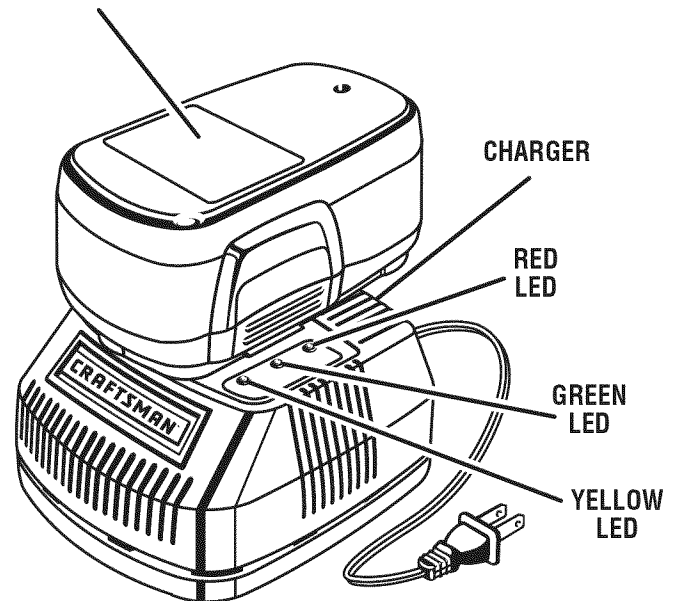

Fig. 2
- Place the battery pack in the charger aligning raised rib on the battery pack with the groove in the charger. See *Figure 2*.